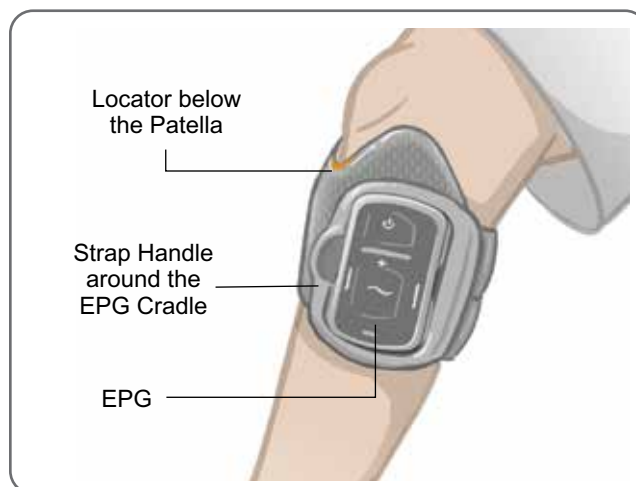

Figure 8-8: Lower Leg Cuff on the Right Leg
5. Make sure the fastened cuff fits comfortably, with the locator below the patella and the strap handle around the cradle, as shown in Figure 8-8.